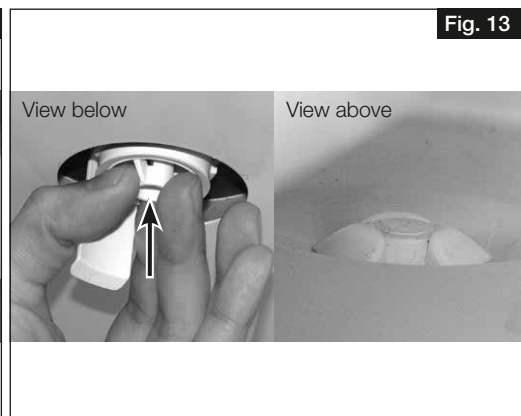

Fig. 13
2. Plug the mounting part in the condensate outlet from below, until the claw fasteners snap to the sheet edge of the base plate (Fig. 13).